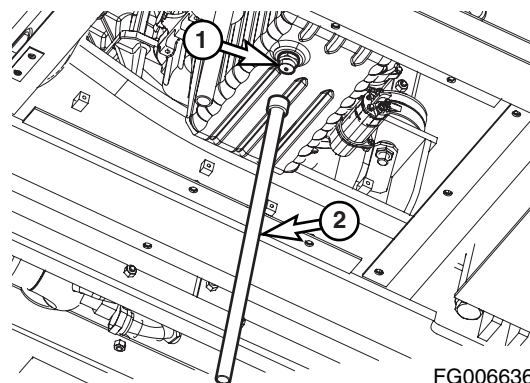

Figure 54
1. Position a larger container under the engine. Remove cap (1, Figure 54) and install hose (2) to drain the engine oil. Remove hose (2) and install cap (1).